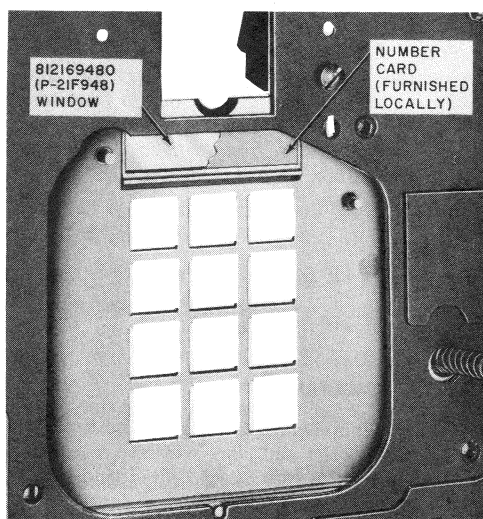

Fig. 28—Window and Number Card Installed in TOUCH-TONE Set
- (1) Remove dial housing.
- (2) Insert window in faceplate from rear (Fig. 28).
- (3) Insert number card in window (Fig. 28).